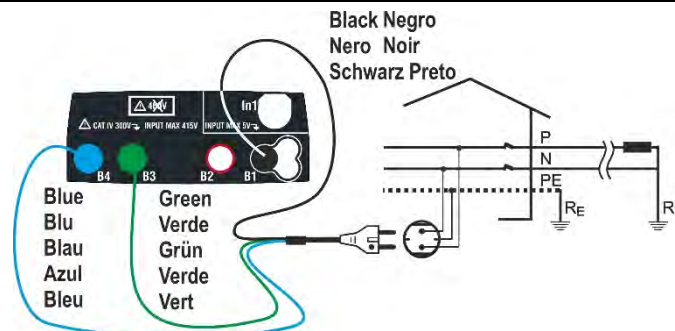
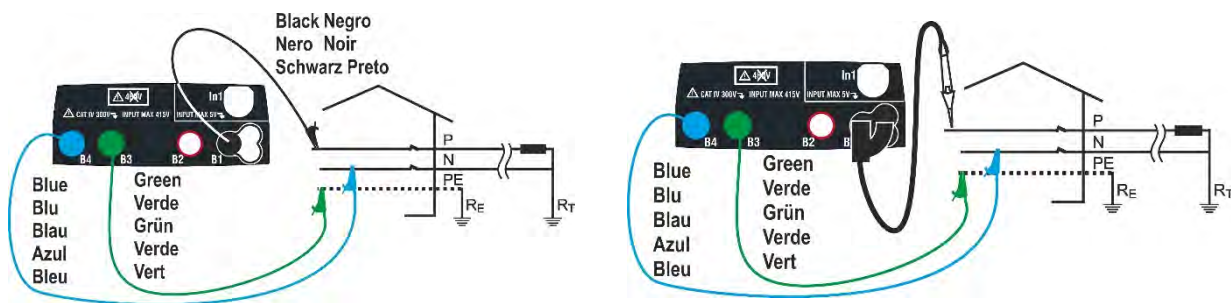
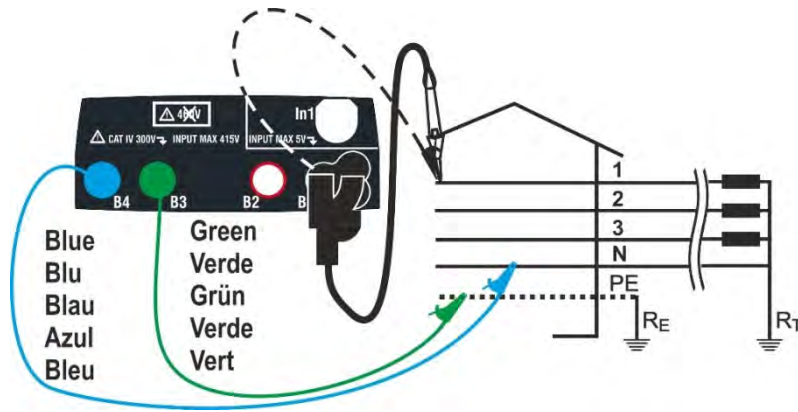
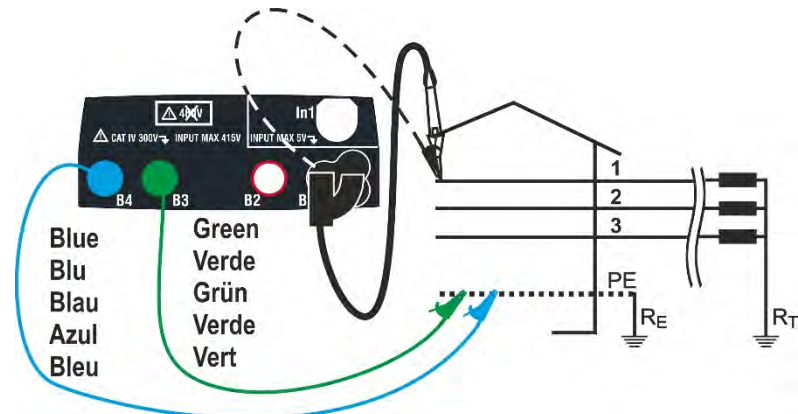

Fig. 18: P-N/P-PE measure for single-phase 230V systems with shuko plug
Fig. 19: P-N/P-PE measure for single-phase/two-phase 230V systems with cables and remote lead
Fig. 20: P-N/P-PE measurement for 400V+N+PE three-phase systems by means of single cables and remote lead
Fig. 22: P-PE/P-N measurement for 400V + PE (no N) systems by means of single cables and remote lead
4. Perform the preliminary calibration of the test leads as described in § 6.4.2. Connect the shuko plug, the alligator clips or the remote lead to the electrical mains according to Fig. 18, Fig. 19, Fig. 20 and Fig. 22.